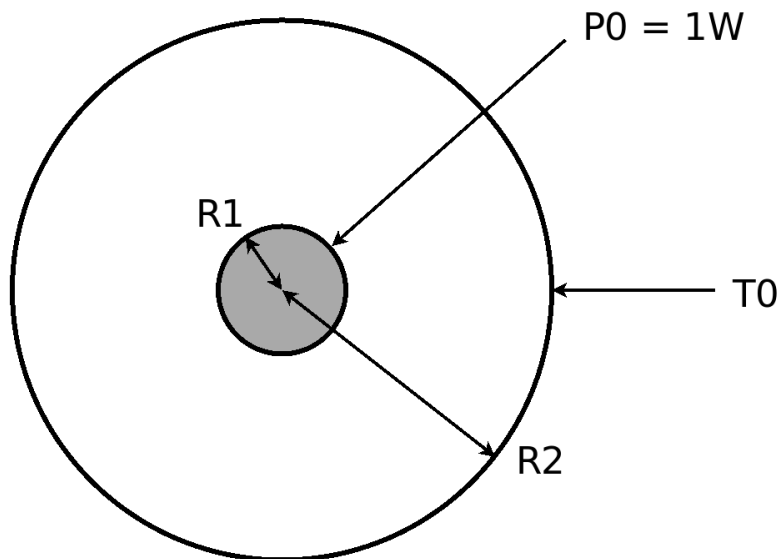

Figure 1: Geometry and boundary conditions
The aim of this project is to solve the heat diffusion equation in 2D to obtain the temperature distribution in a plane disk heated by a localized heat source. This heat source is assumed to be acting only on a subset of the domain represented by a small disk (the gray area in Figure 1). This model has an analytical solution to which the obtained numerical results can be compared.
Step 1: For each of the nodes with coordinates (x, y) , test whether this node is on the boundary (at distance of 0.1 from the center) (see Figure 1).